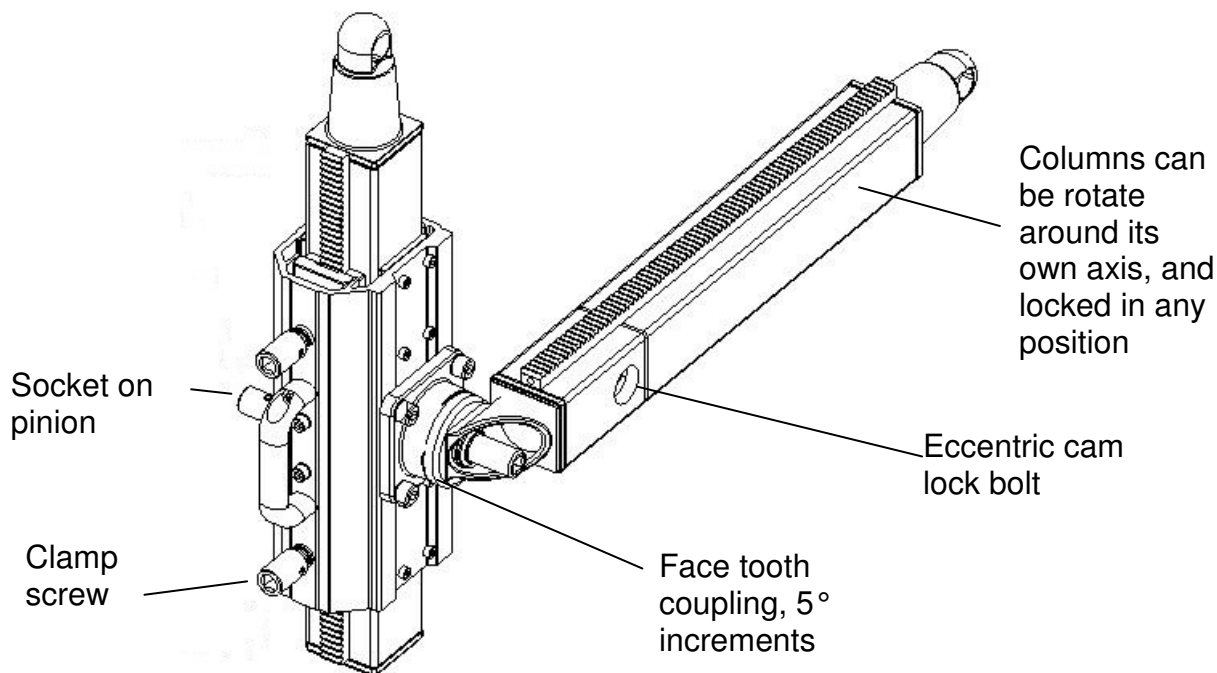

Fig. 5. Pivoting head-PD1 with column.
1. Mount the pivoting head on the column (see fig. 5)